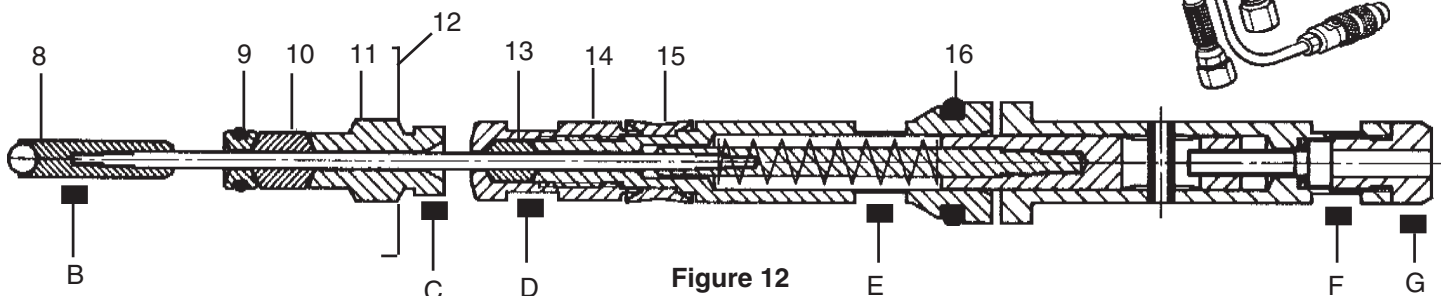

Figure 12
3. Unscrew seal screw (11/C) from gun body. Fig. 12
4. Carefully remove complete valve rod by pulling end of rod (12). Fig. 12
5. Hold the rod valve using the universal spanner at surface (F) and using a pliers turn the valve seal (8/B) and remove. Fig. 12
6. Remove compression ring (9) and front seal (10). Fig.12
7. To remove push rod cap (14) hold universal spanner at surface (E) and unscrew at surface (D). Fig.12
8. Replace compression ring with O-Ring (9), front seal (12), rear seal (11) and if necessary push rod seal (15) and O-Ring (16) of the air valve . Fig. 12